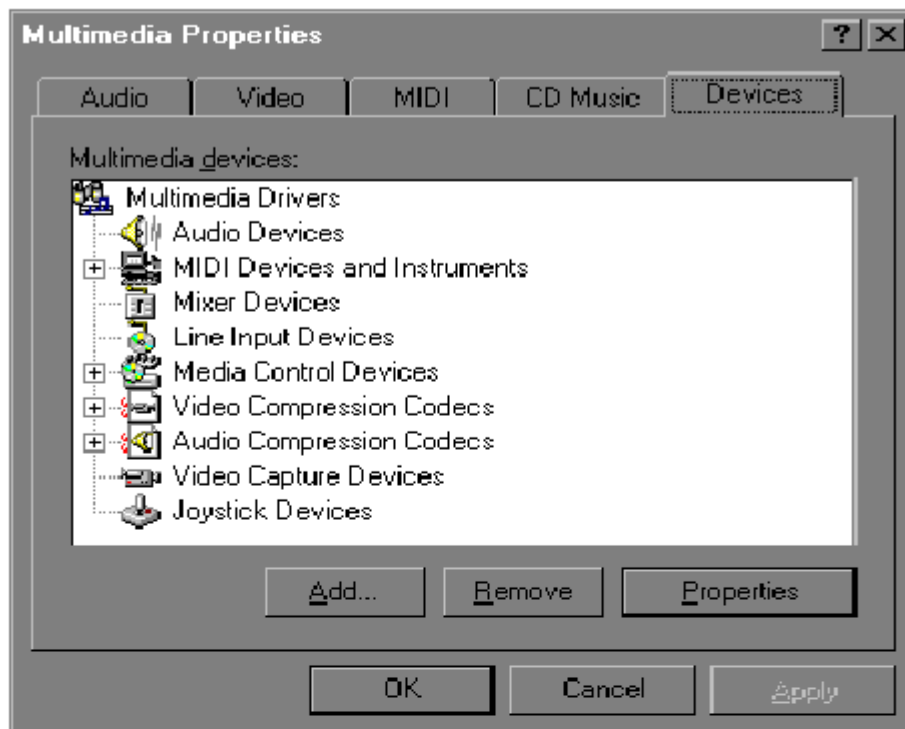

Figure2-1.TheMultimediaPropertieswindow.
5. The *Multimedia Properties* window now appears as shown in Figure 2-1 below. Click on the **Device** tab.